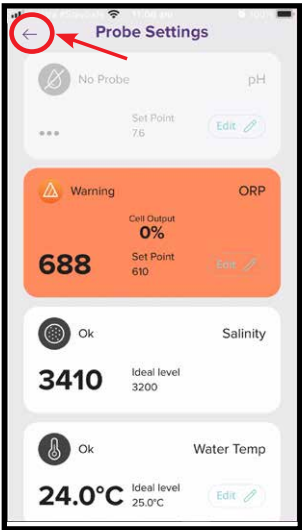

Figure 8.27
- Press the back arrow to return to the home screen of the Henden Smart Chlorinator App (refer figure 8.27).